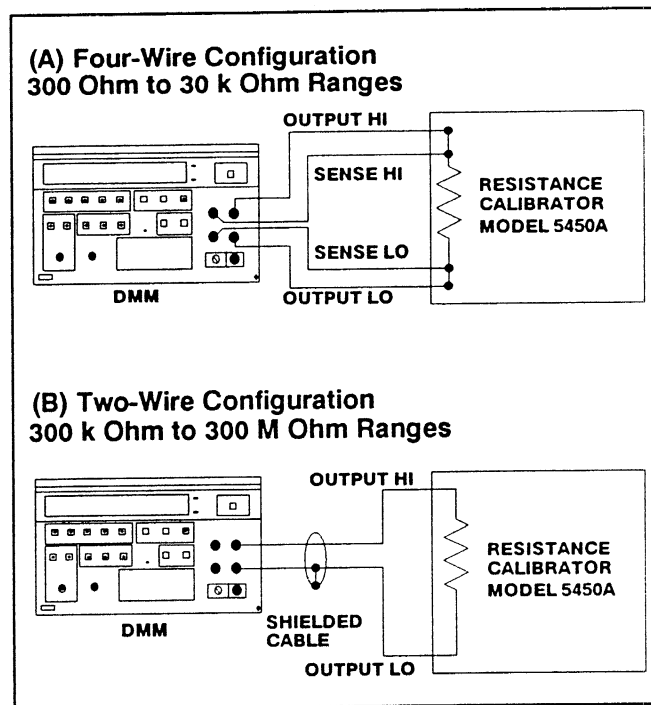

Fig. 3-2. Resistance Calibration Configuration.
- c. Connect the DMM to the resistance calibrator as shown in Fig. 3-2 (A).
- i. Repeat steps d through h for the remaining ^{ohms} ~~DCV~~ ranges using Table 3-3 and Fig. 3-2 as a guide.
| 300 Ω | Fig. 3-2 (A) | 190.0000 Ω 000.0000 Ω | 190 Ω Short (0 Ω) | OHMS;RANGE 1 CAL FIRST,190 CAL LAST,0 |
| 3 kΩ | Fig. 3-2 (A) | 1.900000 kΩ 0.000000 kΩ | 1.9 kΩ Short (0 Ω) | OHMS;RANGE 2 CAL FIRST,1.9E3 CAL LAST,0 |
| 30 kΩ | Fig. 3-2 (A) | 19.000000 kΩ 00.000000 kΩ | 19 kΩ Short (0 Ω) | OHMS;RANGE 3 CAL FIRST,19E3 CAL LAST,0 |
| 300 kΩ | Fig. 3-2 (B) | 190.0000 kΩ 000.0000 kΩ | 190 kΩ Short (0 Ω) | OHMS;RANGE 4 CAL FIRST,190E3 CAL LAST,0 |
| 3 MΩ | Fig. 3-2 (B) | 1.900000 MΩ 0.000000 MΩ | 1.9 MΩ Short (0 Ω) | OHMS;RANGE 5 CAL FIRST,1.9E6 CAL LAST,0 |
| 30 MΩ | Fig. 3-2 (B) | 19.000000 MΩ 00.000000 MΩ | 19 MΩ Short (0 Ω) | OHMS;RANGE 6 CAL FIRST,19E6 CAL LAST,0 |
| 300 MΩ | Fig. 3-2 (B) | 100.000 MΩ 000.000 MΩ | 100 MΩ Short (0 Ω) | OHMS;RANGE 7 CAL FIRST,100E6 CAL LAST,0 |